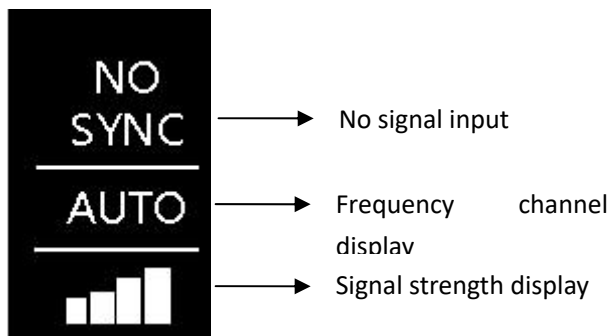
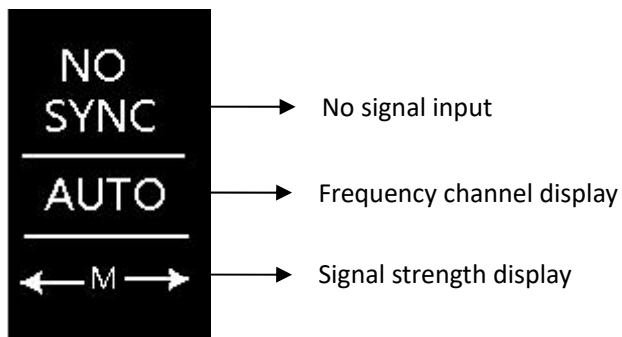

Fig. 1
Fig. 3
- (11) **SDI OUT:** SDI：See Fig. 1
- (12) **DC in:** Support 7~34V wide voltage input。
See Fig. 1
When the transmitter has no signal input, see Fig. 3
- (3) Switch on both FLOW6500 transmitter and receiver, “Power” indicator light up, OLED screen show “WAIT...” then jump to initial interface, see fig.1 or fig.3; Wait until “Link” and “Video” indicator light up, the transmitter and receiver have identifiable signal inputs and connected successfully. If the transmitter and receiver have identifiable signal inputs but fail to establish a connection, the “link” indicator will flash.
“Power” indicator light up, OLED screen show “WAIT...” then jump to initial interface, see fig.1 or fig.3; Wait until “Link” and “Video” indicator light up, the transmitter and receiver have identifiable signal inputs and connected successfully, right push the joystick to “PREF” interface, see fig.11.